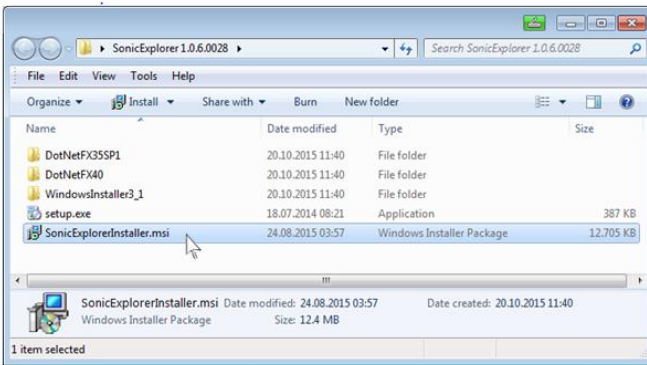

Figure 5-1 SonicExplorer download folder
- ▶ Open the folder. Double click on 'SonicExplorerInstaller.msi'. See Figure 5-1.